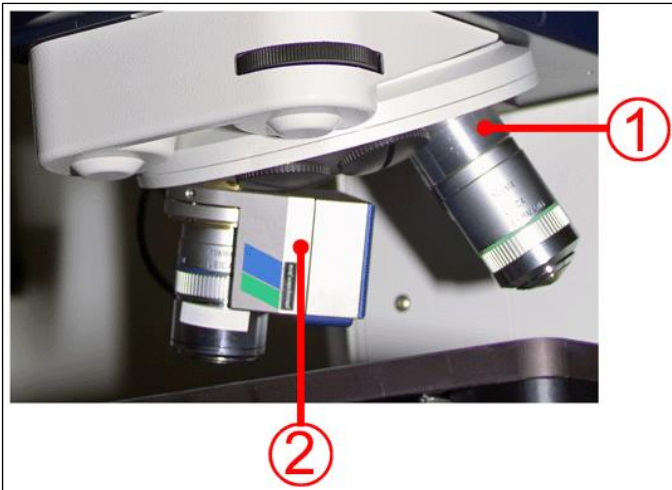

Figure 98: Spacer (1) and piezo focus (2)
If there is a piezo focus installed on your system (see Figure 98, position 2) pay careful attention to the following notes:
- Please note that the focus position of an objective with piezo focus is 13 or 14.5 mm lower than those without piezo focus. A spacer (Figure 98, position 1) is installed on all other objectives to ensure the same focal plane. If you have further questions, get in touch with your contact person or the Leica branch office in your country.